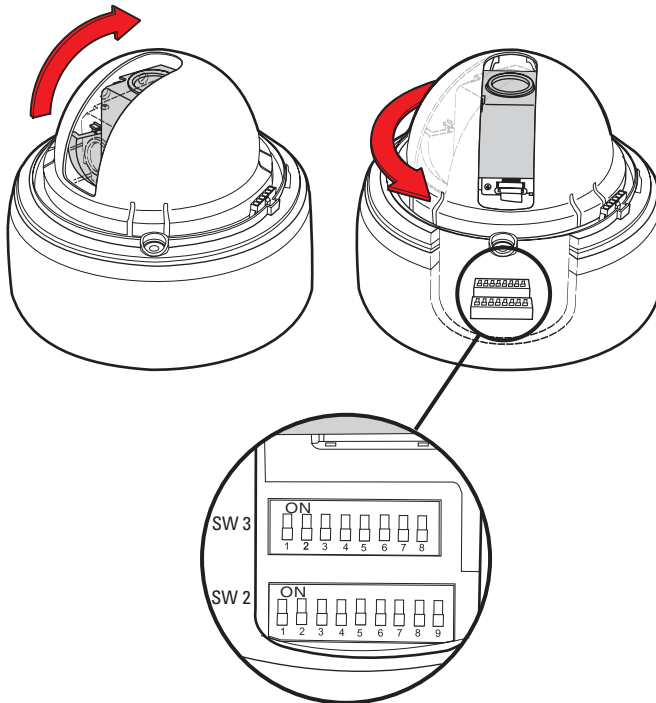

Figure 12. Locating the Spectra Mini Dome DIP Switches
4. Set the DIP switches on the dome (refer to Figure 12 for switch location):